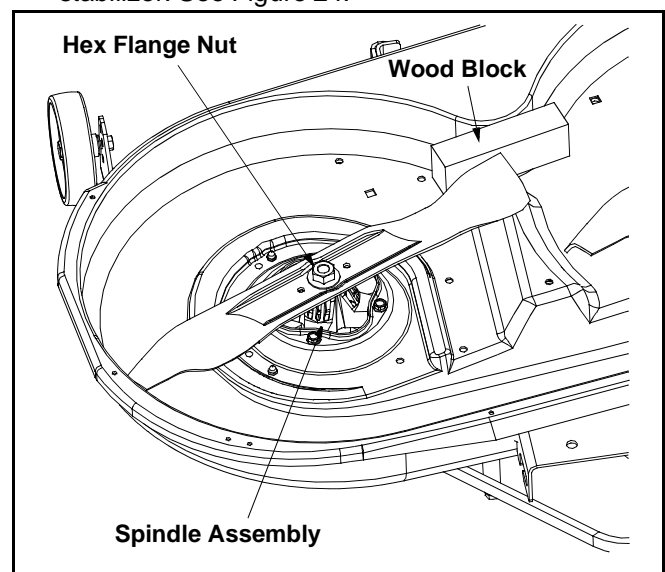

Figure 24
- Place a block of wood between the center deck housing baffle and the cutting blade to act as a stabilizer. See Figure 24.
- Use a 1-1/8" wrench to remove the hex flange nut that secures the blade to the spindle assembly. See Figure 24.